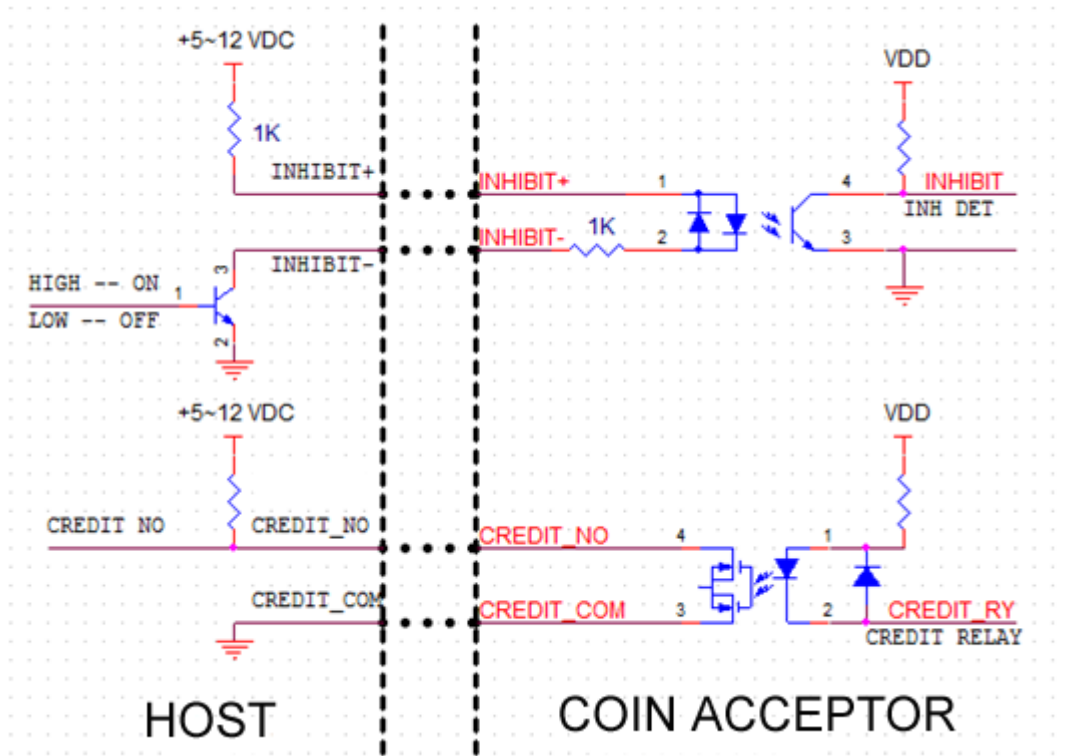

Figure 1
(1) Pulse Interface connection, See figure 1、 2.